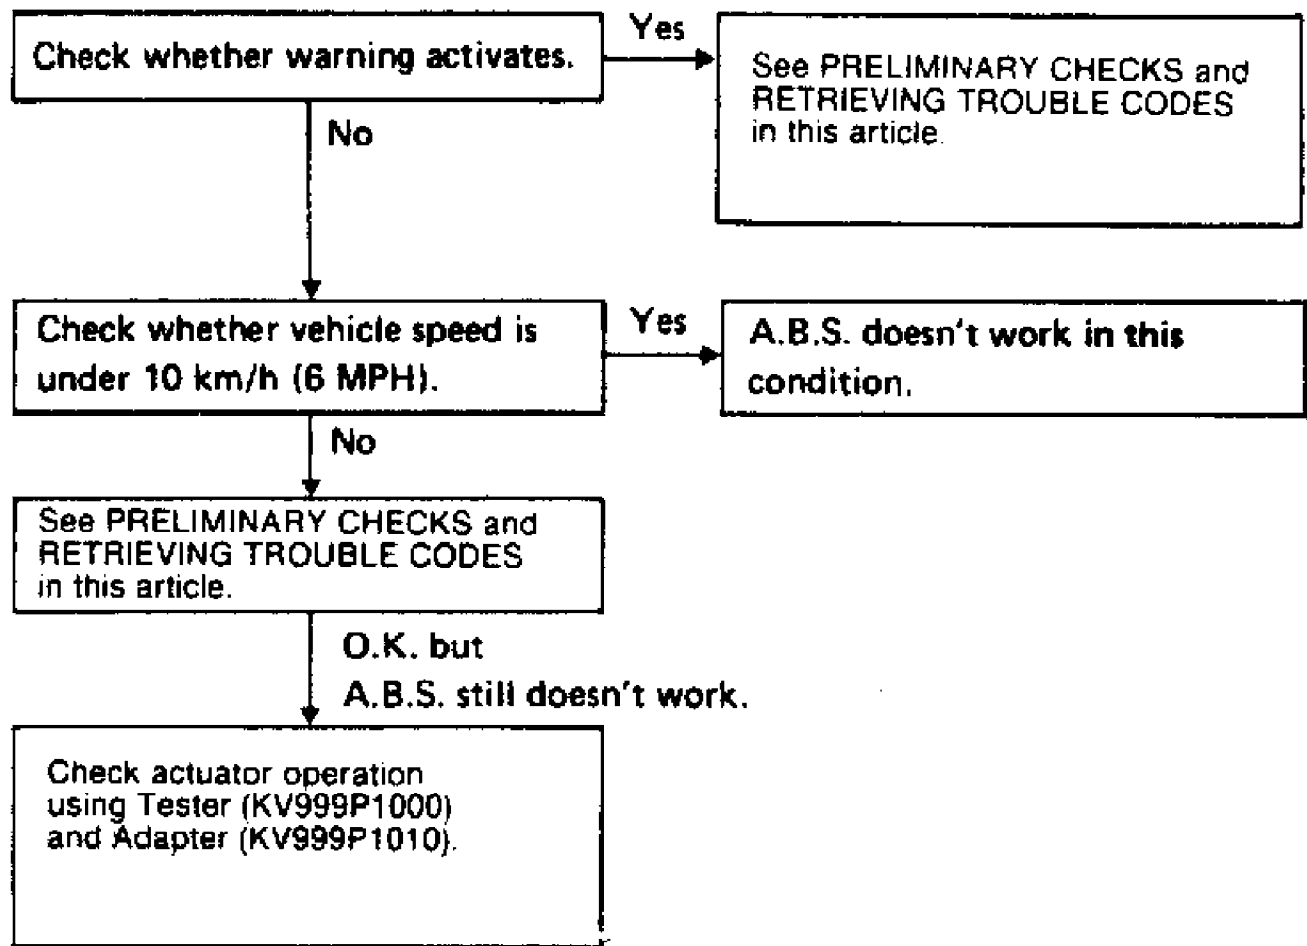

Fig. 11: ABS Does Not Work Troubleshooting Chart
- ABS Does Not Work - See Fig. 11.